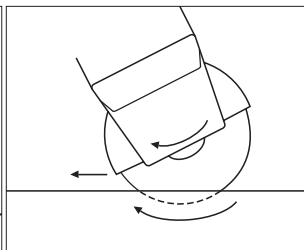

Fig. 8
- The machine must be moved in same direction as the arrow on the tool head shows, in order to prevent the tool from being pushed out of the cut in an uncontrolled manner (fig.8). Let the speed of the cutting disc do the work, do not apply pressure on the tool. Do not break cutting discs with side pressure and do not tilt the tool while cutting.